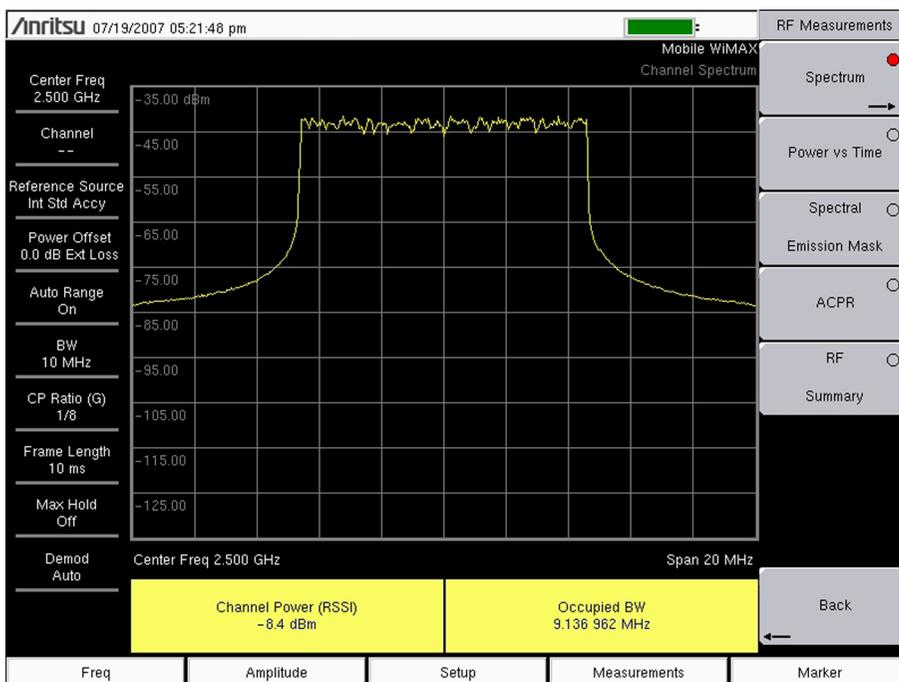

Figure 3-1. Mobile WiMAX Spectrum Measurement
2. Press the Spectrum submenu key again to open the Spectrum menu and change the Span, if desired. Span choices are: 5 MHz, 10 MHz, 20 MHz, and 30 MHz. The sample image in Figure 3-1 may differ from any image on your instrument.